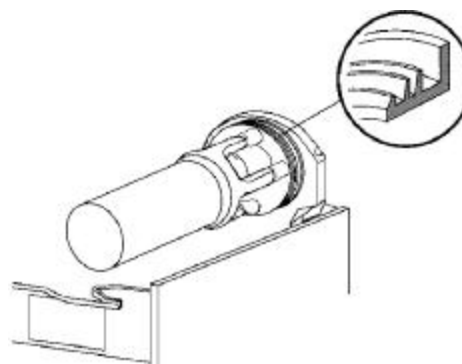

figure 14
- 4 - Fit bowl gasket around its seat. Note: the largest brim of gasket must face against the rear wall (see figure 14).